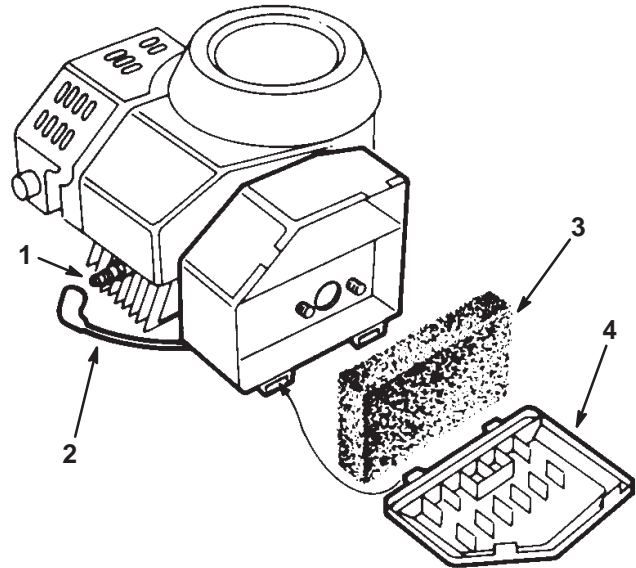

Figure 9
1. Make sure the spark plug wire is disconnected from the spark plug (Fig. 9).
2. Lift the tab at the top of the air cleaner and pivot the air cleaner cover down. Clean the cover thoroughly (Fig. 9).
4. Reinstall the foam element and air cleaner cover (Fig. 9).